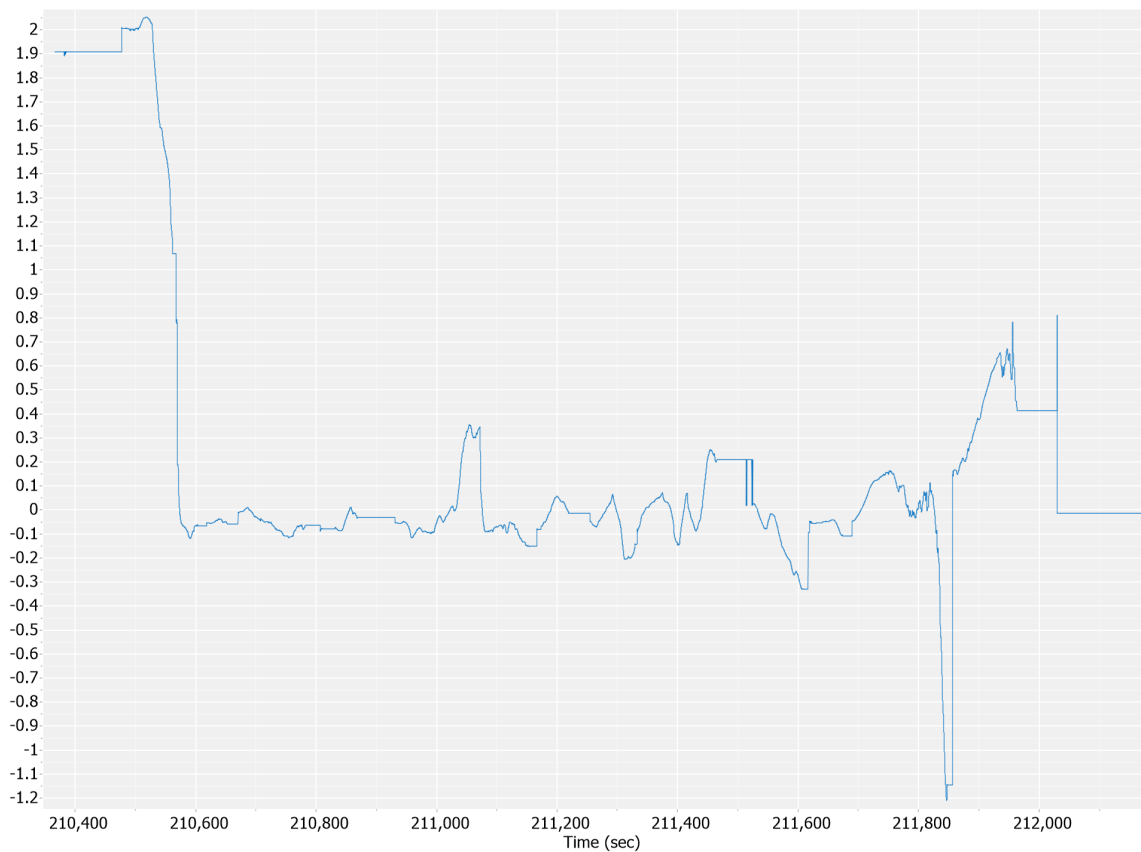

Fig 13: Down position difference
- *Provides the difference in position and orientation between the real-time navigation solution and the post-processed solution (Fig 13)*